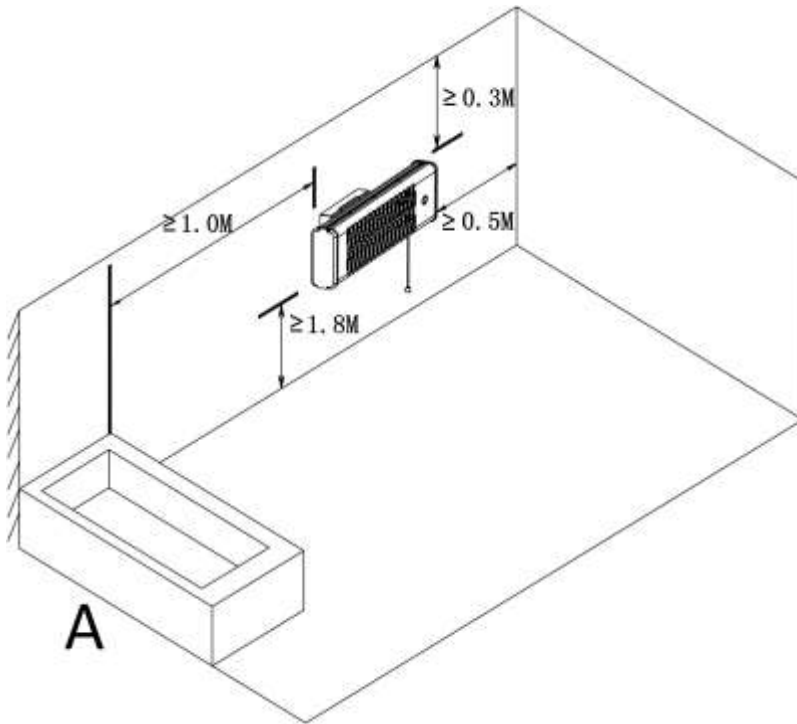
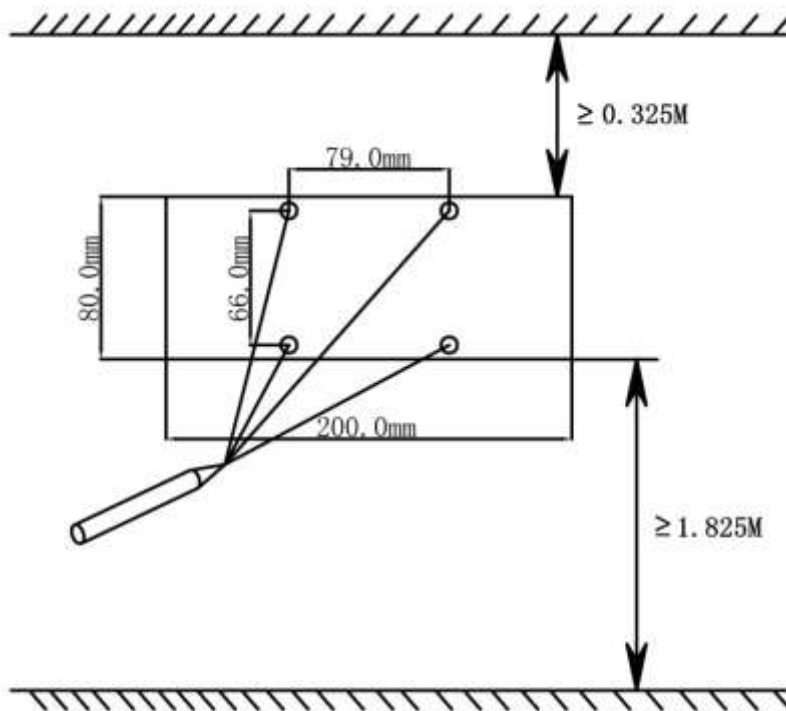

Fig.3
Fig.4
20. Keep safe distances according to European standards and national regulations indicated in Fig. 3.
- The quartz heater must be installed at a horizontal position only. Do not install at the ceiling or vertically. During installation respect the minimum distances indicated in Fig. 3. The heater must be mounted at least 1800mm above the floor, 300mm under the ceiling and 500mm away from side wall(s).
- Find the most appropriate position so as not to block access to the pull switch cord and the switch, at all times respecting the safety distances indicated in Fig. 3. Mark the holes for mounting on the wall where the heater is to be installed. Take the measure on Fig. 4 as reference. Mark a cross in the center of the hole for more precise drilling. (See Fig. 4)